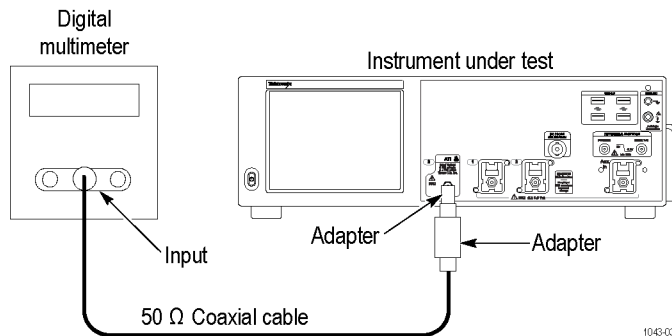

Figure 22: Input resistance test hookup
- d. *Hook up the test-signal source:* Connect, through a 50 Ω precision coaxial cable, the input of the multimeter to **Ch 2** through adapters. (See Figure 22: Input resistance test hookup on page 125.)